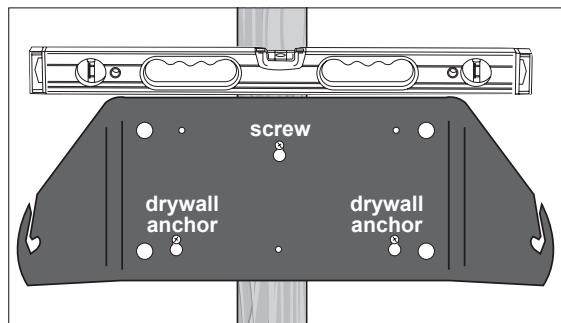

Figure 4
3. Using a level across the top of the stand, mark the three keyhole locations indicated (See Figure 4). IMPORTANT: the top, center keyhole must be screwed into a wall stud.